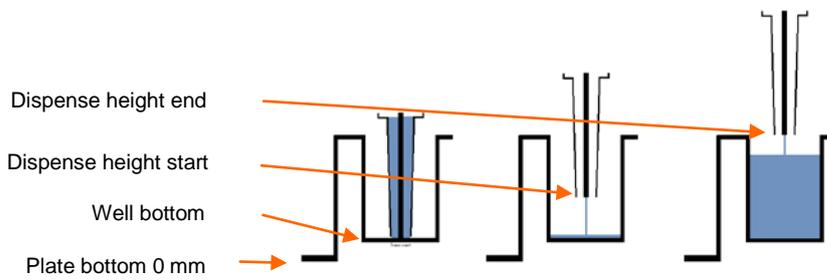

Figure 34. Dispense heights
- **Aspirate height** – The aspirate height ranges from 0 mm to 14 mm in 0.1 mm increments. The default height varies according to the plate type and well shape (Table 6). The zero height from which the aspirate height is defined is the lowest level of a plate when the plate is properly placed on the plate carrier. Refer to Figure 34.
- **Dispense height start** – The dispense height start ranges from 0 mm to 17 mm in 0.1 mm increments. The default is *6.0 mm*. Ensure that the value fits the plate in use. Because dispensing starts from a lower level in a well and ends at a higher level, the start height should be lower than or equal to the end height. Refer to Figure 34.
- **Dispense height end** – The dispense height end ranges from 0 mm to 17 mm in 0.1 mm increments. The default is *14.4 mm*. Refer to Figure 34.
- **Aspirate height (mm)** – The aspirate height ranges from 0 mm to 14 mm in 0.1 mm increments. The default height varies according to the plate type and well shapes (Table 6). Refer to Figure 34.
- **Dispense height start** – The height at the start of dispensing ranges from 0 mm to 17 mm in 0.1 mm increments. The default is 17.0 mm. Ensure that the value fits the plate in use. Because dispensing starts from a lower level in a well and ends at a higher level, the start height should be lower than or equal to the end height. Refer to Figure 34.
- **Dispense height end** – The height at the end of dispensing ranges from 0 mm to 17 mm in 0.1 mm increments. The default is 17.0 mm. Refer to Figure 34.